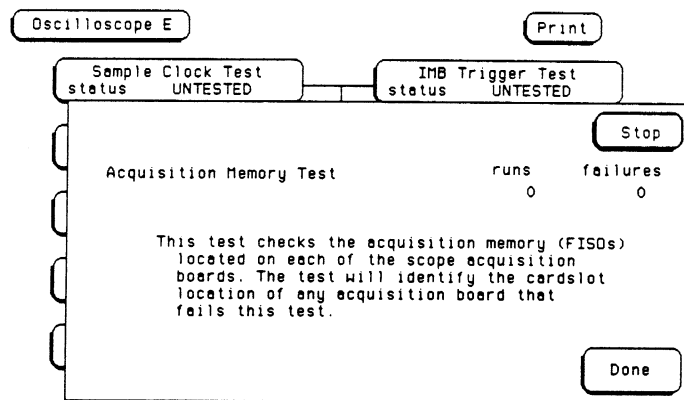

Figure 6-9. Stop Field
- j. To stop a Repetitive run, touch **Stop**. See figure 6-9